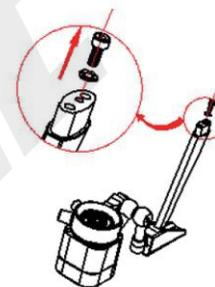

Figure 1
- ◆ Unscrew one screw on the support column, as shown in Figure 1.